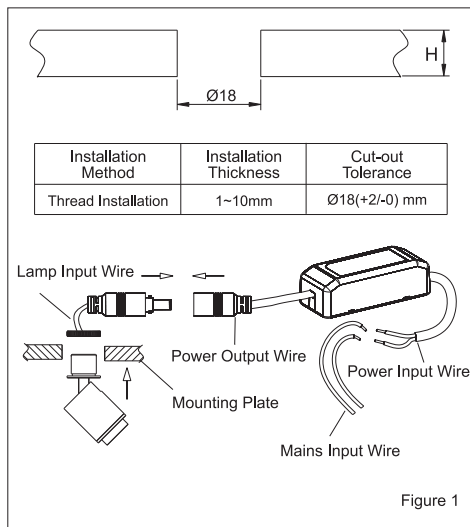

Figure 1
1. Drill an  $\Phi 18\text{mm}$  hole at the installation position on the countertop, as shown in Figure 1.